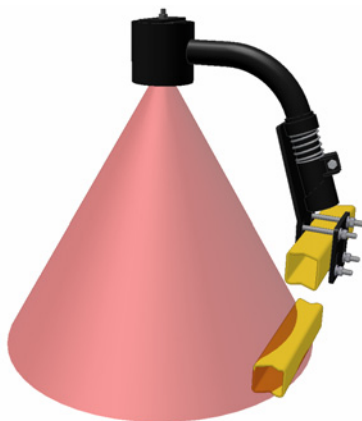

Figure 9: Poor Mounting (Sensor Reading Off Boom)
- !** Avoid mounting sensors in locations where they may read from parts of the boom as shown in Figure 9.